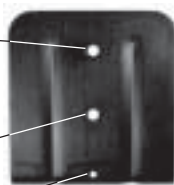

Figure 11
10. Attach the Nylon Pivot Pin to one of the L Mounting Brackets using the short Pivot Pin Screw and Lock Washer. Refer to figures 11 and 12 for the correct opening location.
13. Referring to figures 11 and 12 install the Mounting Sleeve on the wall (orient with opening at the top) us-